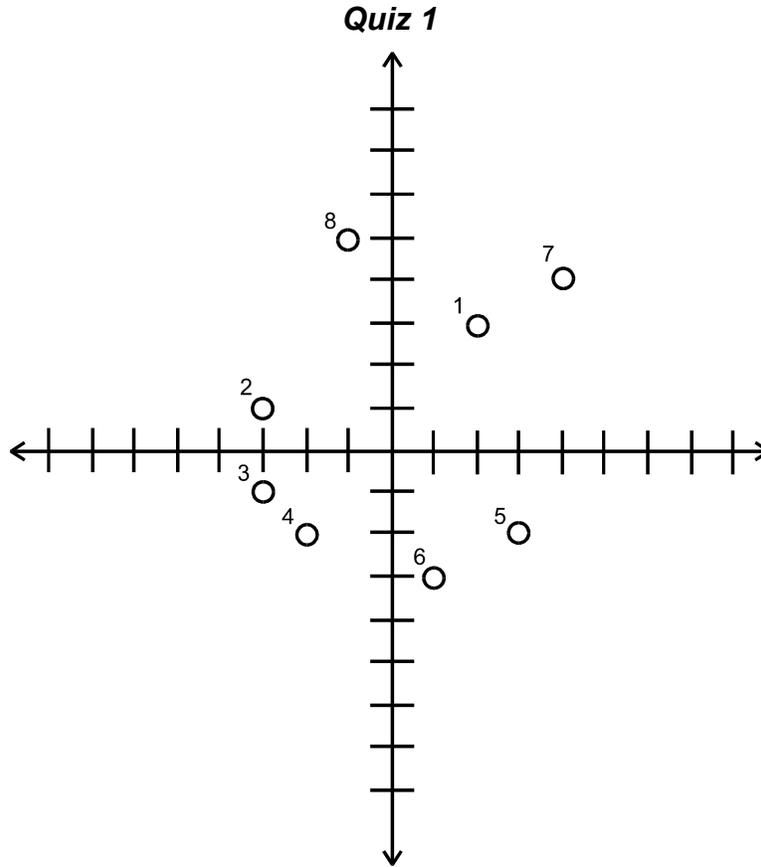

Figure 1-6, Quiz 1 Coordinates
Directions: Refer to **Figure 1-6**. Circle the correct answers.
- II. Circle the choice (a, b, c or d) that gives the correct X, Y coordinates of each point (1 to 8). Refer to **Figure 1-6**.